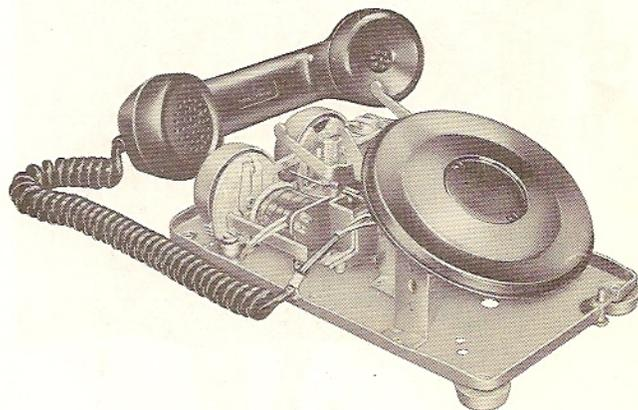

Fig. 19 — 95C Apparatus Blank on Dial Mounting Bracket in 500- or 501-Type Telephone Set
- Install by fitting on dial mounting bracket and replacing housing (Fig. 19 and 20).